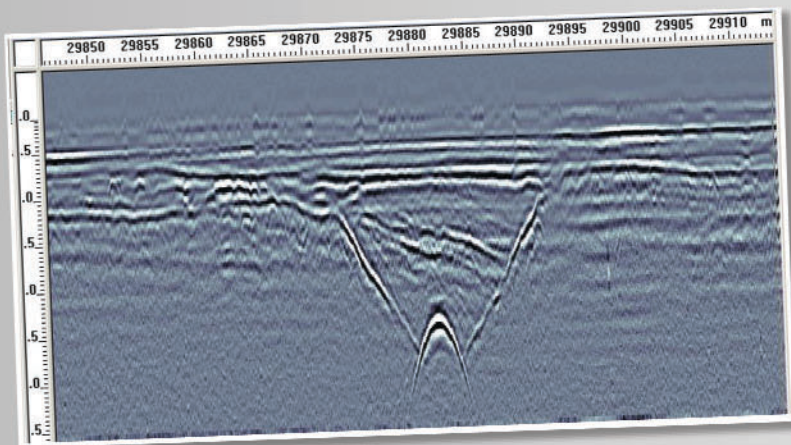
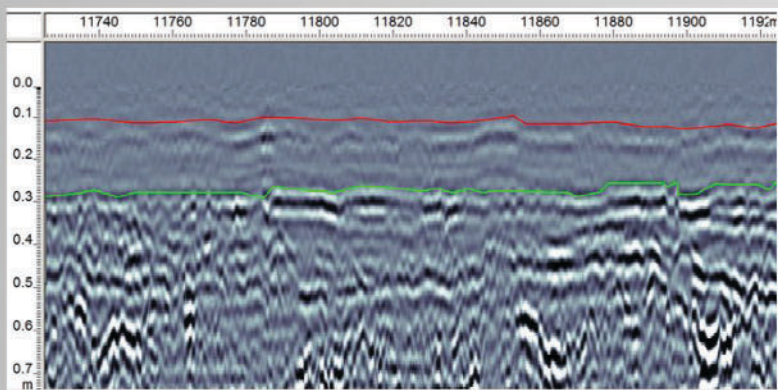
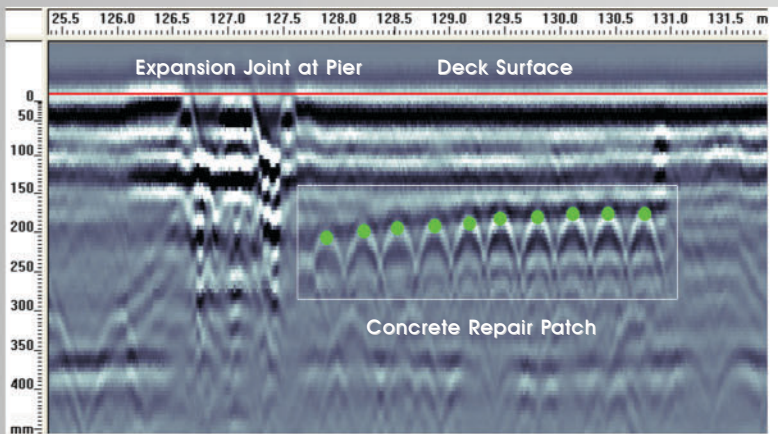

Figure 1: The 250 MHz systems provide deeper penetration to locate objects like deep utilities under roads.
Figure 2: The 500 MHz systems provide high resolution imaging of pavement thickness.
Figure 3: The 1000 MHz systems provide high resolution imaging of reinforcement and conduits in concrete structures.
- ♦ **High Frequency and Dual-Channel Support** - The SmartChariot supports the Noggin 250, 500 and 1000 systems, the pulseEKKO PRO 500 and 1000 MHz transducers and simultaneous operation of Noggin 500/1000 or 1000/1000 MHz. The lower frequency 250s provide deeper penetration to locate objects like deep utilities under roads (Figure 1) while higher frequencies provide better resolution of pavement thickness (Figure 2), as well as of reinforcement and conduits in concrete structures (Figure 3).